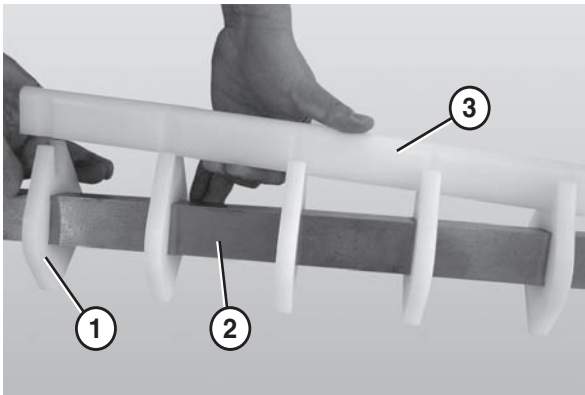

Figure 74
1. Slide the nose bar pucks (Figure 74, item 1) onto the nose bar drive post (Figure 74, item 2).
2. Attach the nose bar wear strip (Figure 74, item 3).